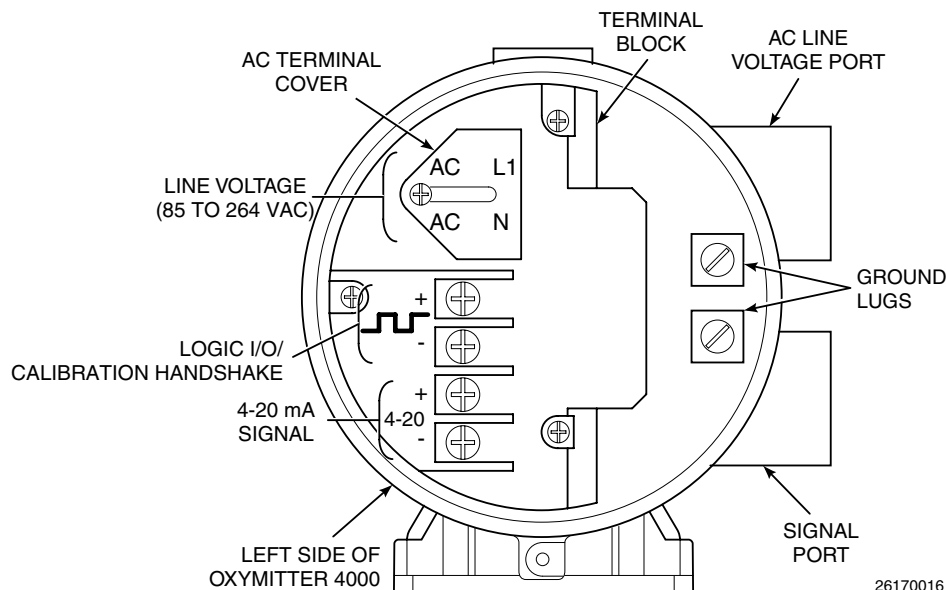

Figure 2-9. Terminal Block
- b. **Connect Line Voltage.** Connect the line, or L1, wire to the L1 terminal and the neutral, or L2 wire, to the N terminal (Figure 2-9). The Oxymitter 4000 automatically will configure itself for 90-250 VAC line voltage and 50/60 Hz. The power supply requires no setup.
- c. **Connect 4-20 mA Signal and Logic I/O/Calibration Handshake Leads (Figure 2-9).**